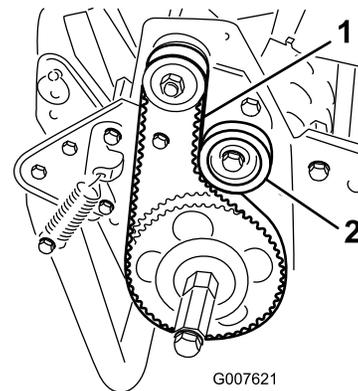

Figure 41
2. Check the tension by pressing the belt at mid span of the pulleys (Figure 41) with 4 to 5 lbs (18–22 N) of force. The belt should deflect 1/4 inch (6 mm).
- A. Loosen the idler pulley mounting nut and pivot the idler pulley clockwise against the backside of the belt until the desired belt tension is attained (Figure 41).